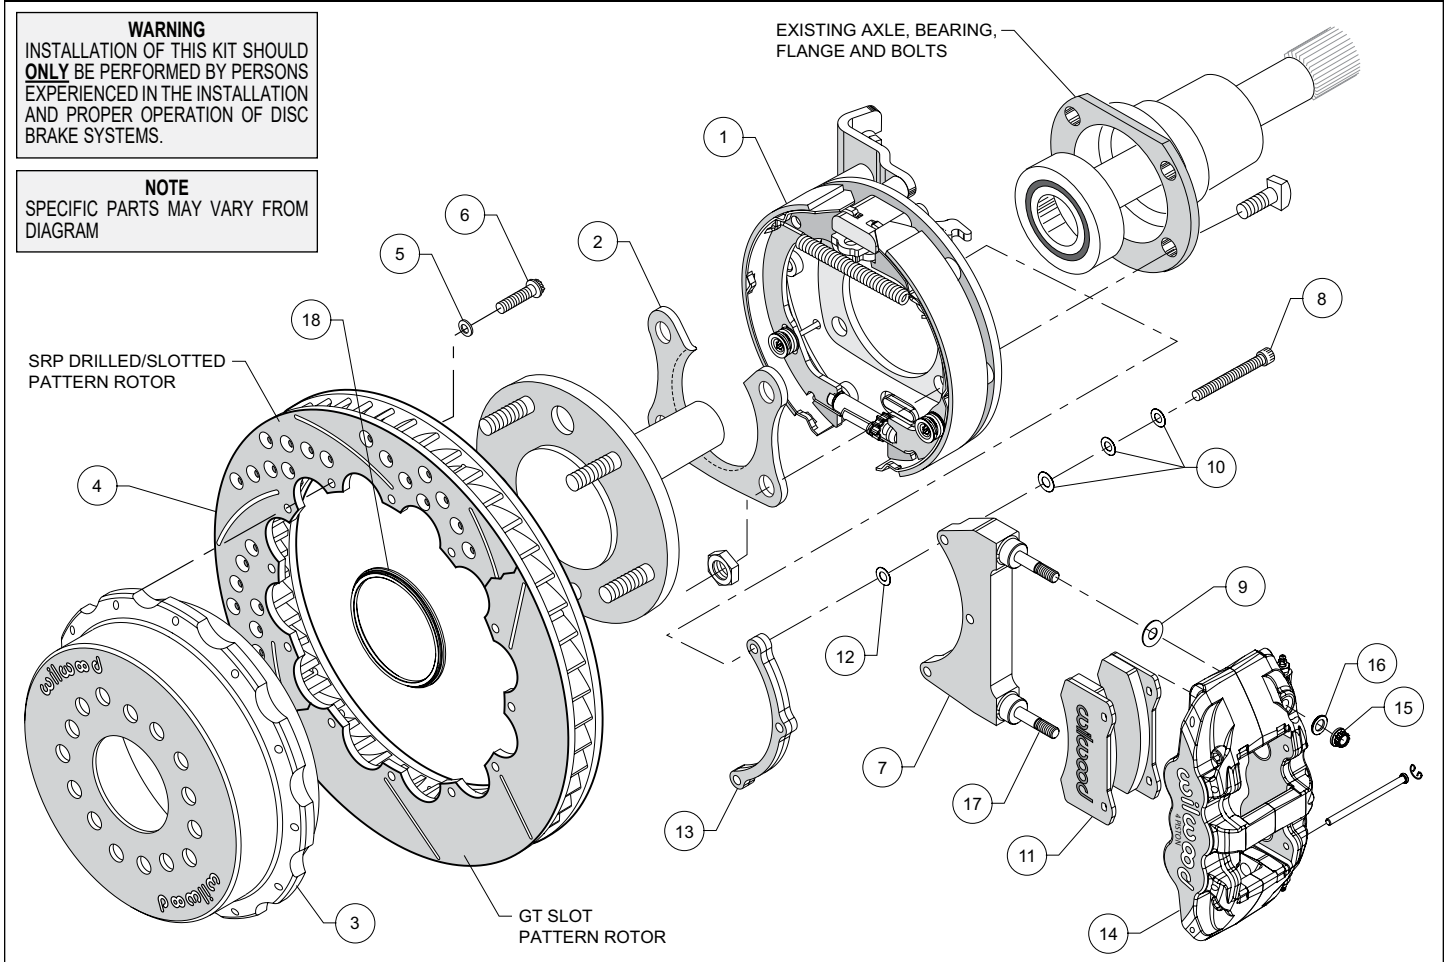

Figure 1. Typical Installation Configuration
- Orient the bracket assembly (1) as shown in Figure 1, and slide it onto the axle flange. Ensure that the bracket assembly backing plate fits flush against the housing flange. Insert the axle shaft into the axle housing.
- Install the bearing retainer (2) with the opening pointing upward and the lip facing inward (toward the bearing), as shown in Figures 1 and 4. Secure using the Original Equipment Manufacturer
(OEM) bolts and nuts, Figure 1. Apply red *Loctite*® 271 to the OEM bolt threads and torque to OEM specifications.
•**NOTE:** Please reference the caution statement at the beginning of the assembly instructions. The caliper mounting bracket assembly (7) should be installed first with clean, dry threads on the mounting bolts (8). Install the bracket from the rear side of the bracket kit assembly (1) by sliding bolt (8) through three flat washers (10), bracket (7), shim washer (12) and finally through the spacer (13), see Figure 1. **NOTE:** End of bolt should not exceed inside face of insert. The bracket must tighten squarely against the back side of the bracket kit assembly (1). Inspect for interference from casting irregularities, machining ridges, burrs, etc. Use one thin shim (12) between the bracket (7) and spacer (13) during initial trial fitting.
•Lubricate caliper mounting studs and nuts with lightweight oil. Install one shim (9) over each pre-installed stud (17) on the radial mount bracket (7). Slide the caliper (14) in place over the studs and rotor, then install the washer (16) and lock nut (15) to hold the caliper in place. The caliper bleed screws should be pointing up. Snug the lock nuts (15) and check that the rotor (4) is centered in the caliper (14). Add or subtract .015" shims (12) as necessary between the caliper mounting bracket (7) and the spacer (13) to center the caliper (9).
•Remove the two pad retaining pins from the caliper (14) by carefully popping out the pin retaining clips and sliding out the pins. Insert the brake pads (11) into the caliper from the bottom, Figure 1. With the friction material facing the rotor, secure the brake pads in place with the pad retaining pins and clips. Reinstall the caliper onto the caliper mounting bracket and temporarily tighten the lock nuts. Check that the top of the brake pad is flush with the outside diameter of the rotor. If not, adjust by adding or subtracting shims (9) between the caliper and the bracket.
•Adjust the parking brake shoes outward (using a drum shoe adjustment tool available at your local auto parts store) while spinning the hat (3) until a slight drag is felt against the hat/drum. Remove the lug nuts that were holding the hat/rotor in place. Install the wheel and lug nuts. Check to see that the wheel rotates freely without interference.
•Once all clearances have been checked, remove the wheel, caliper, hat/rotor from the bracket kit assembly (1). Secure the